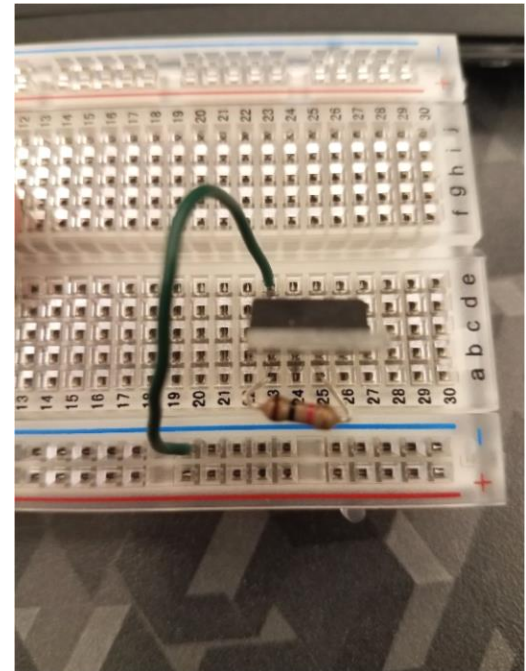

Figure 3: MOSFET Setup
1. Connect the MOSFET, resistor as shown in the schematic in Figure 1. This corresponds to the physical layout shown in Figure 3.
A male-to-male wire should be connected from the ground rail (any row) to the “**source**” terminal of the MOSFET. If you are unsure which terminal of the MOSFET this is, see the explanation in the References section below and reference the Figure 3.